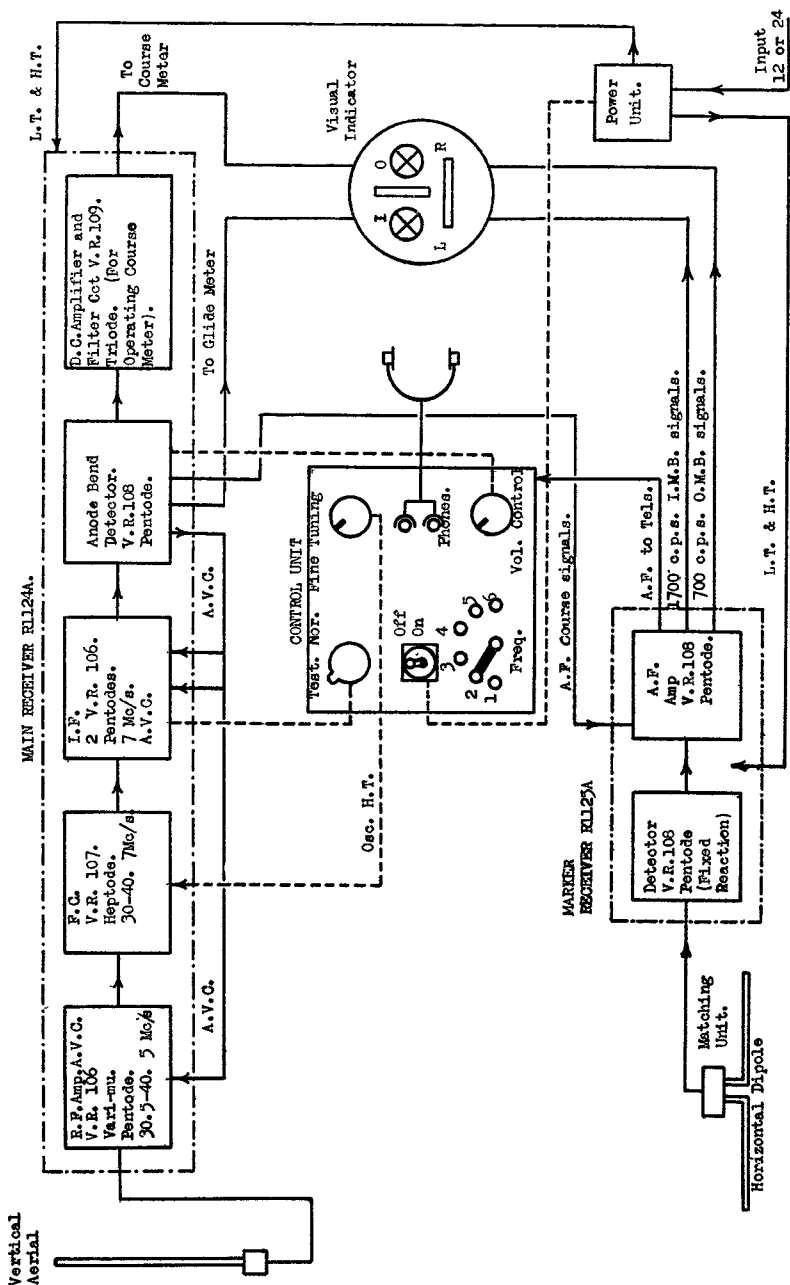

Fig. 88.—Block diagram beam approach aircraft equipment.
7. **Circuit** (the block schematic diagram (fig. 88) indicates the general principles of the equipment).—(i) R.1124A ; the aerial, R.F. anode, F.C. grid and oscillator circuits are each tuned by six pre-set condensers (24 condensers in all).